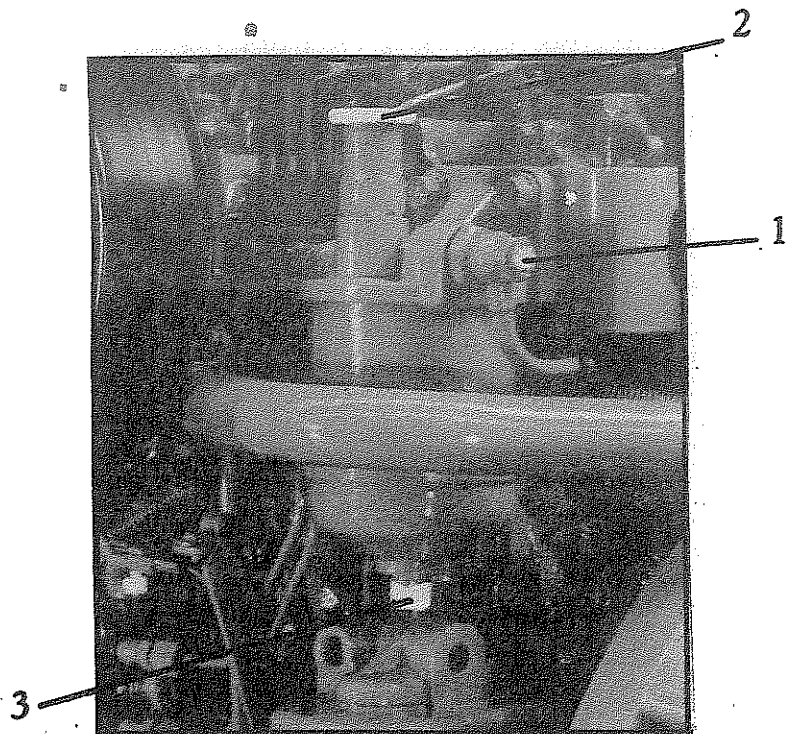

Figure 15
- a) Slacken off screw (1) situated on the filter holder cover (Fig. 15).
- b) Completely slacken off the priming pump (2) (Fig. 15).
- c) Repeatedly press and release the pump (2) until air bubble free fuel spurts out of the filter screw (1).
Then tighten the filter screw (1) (Fig. 15).
- d) Continue operating the filter pump (2) (Fig. 15) 6 or 7 times.
- Slacken off the screw (3) in Figure 15 at the bottom of the filter a few turns while placing a small container underneath it, to prevent the water falling on the oil filter and retighten when water-free fuel flows out.